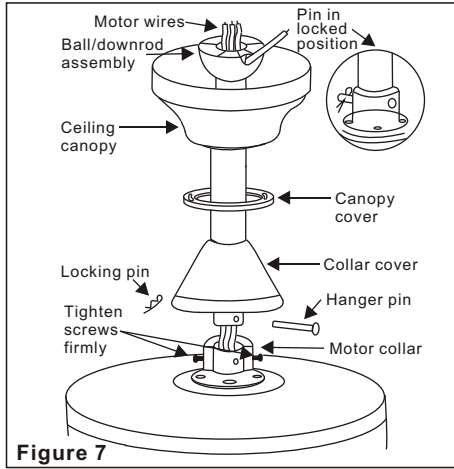

Figure 7
Step 6. Route wires exiting from the top of the fan motor through the collar cover, canopy cover, canopy and then through the ball / downrod.(Fig. 7)
Step 7. Align the holes at the bottom of the downrod with the holes in the collar on top of the motor housing (Fig. 7). Carefully insert
the hanger pin through the holes in the collar and downrod. Be careful not to jam the pin against the wiring inside the downrod. Insert the locking pin through the hole near the end of the hanger pin until it snaps into its locked position, as noted in the circle inset of Fig. 7.
Step 8. Tighten two set screws on top of the fan motor firmly (Figure 7)